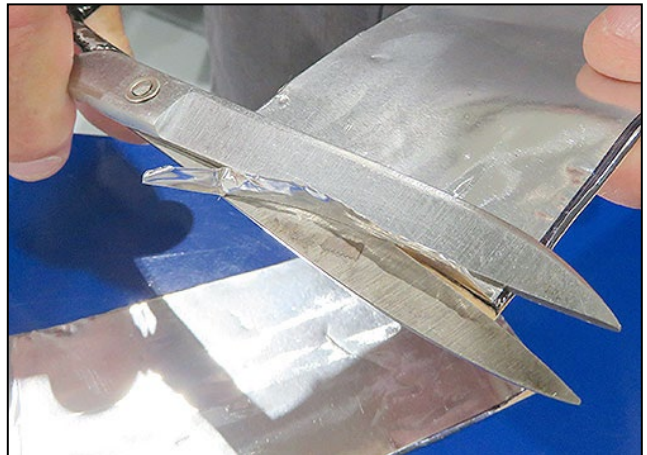

Figure 23
- Figure 23 shows foil being trimmed.